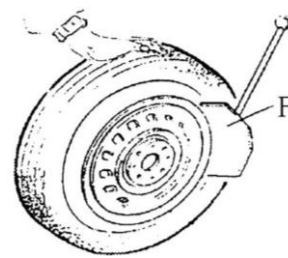

Fig 10
Ensure to exhaust the air in the tyre completely, place the tyre against the rubber buffer (S). Bring the paddle (R) against the bead about 10mm from the edge of the rim shown as Fig 10. Tread Bead breaker Pedal (U) to push paddle into tyre. Repeat the above operations on different positions around the tyre and both sides of tyre until tyre bead is released completely.